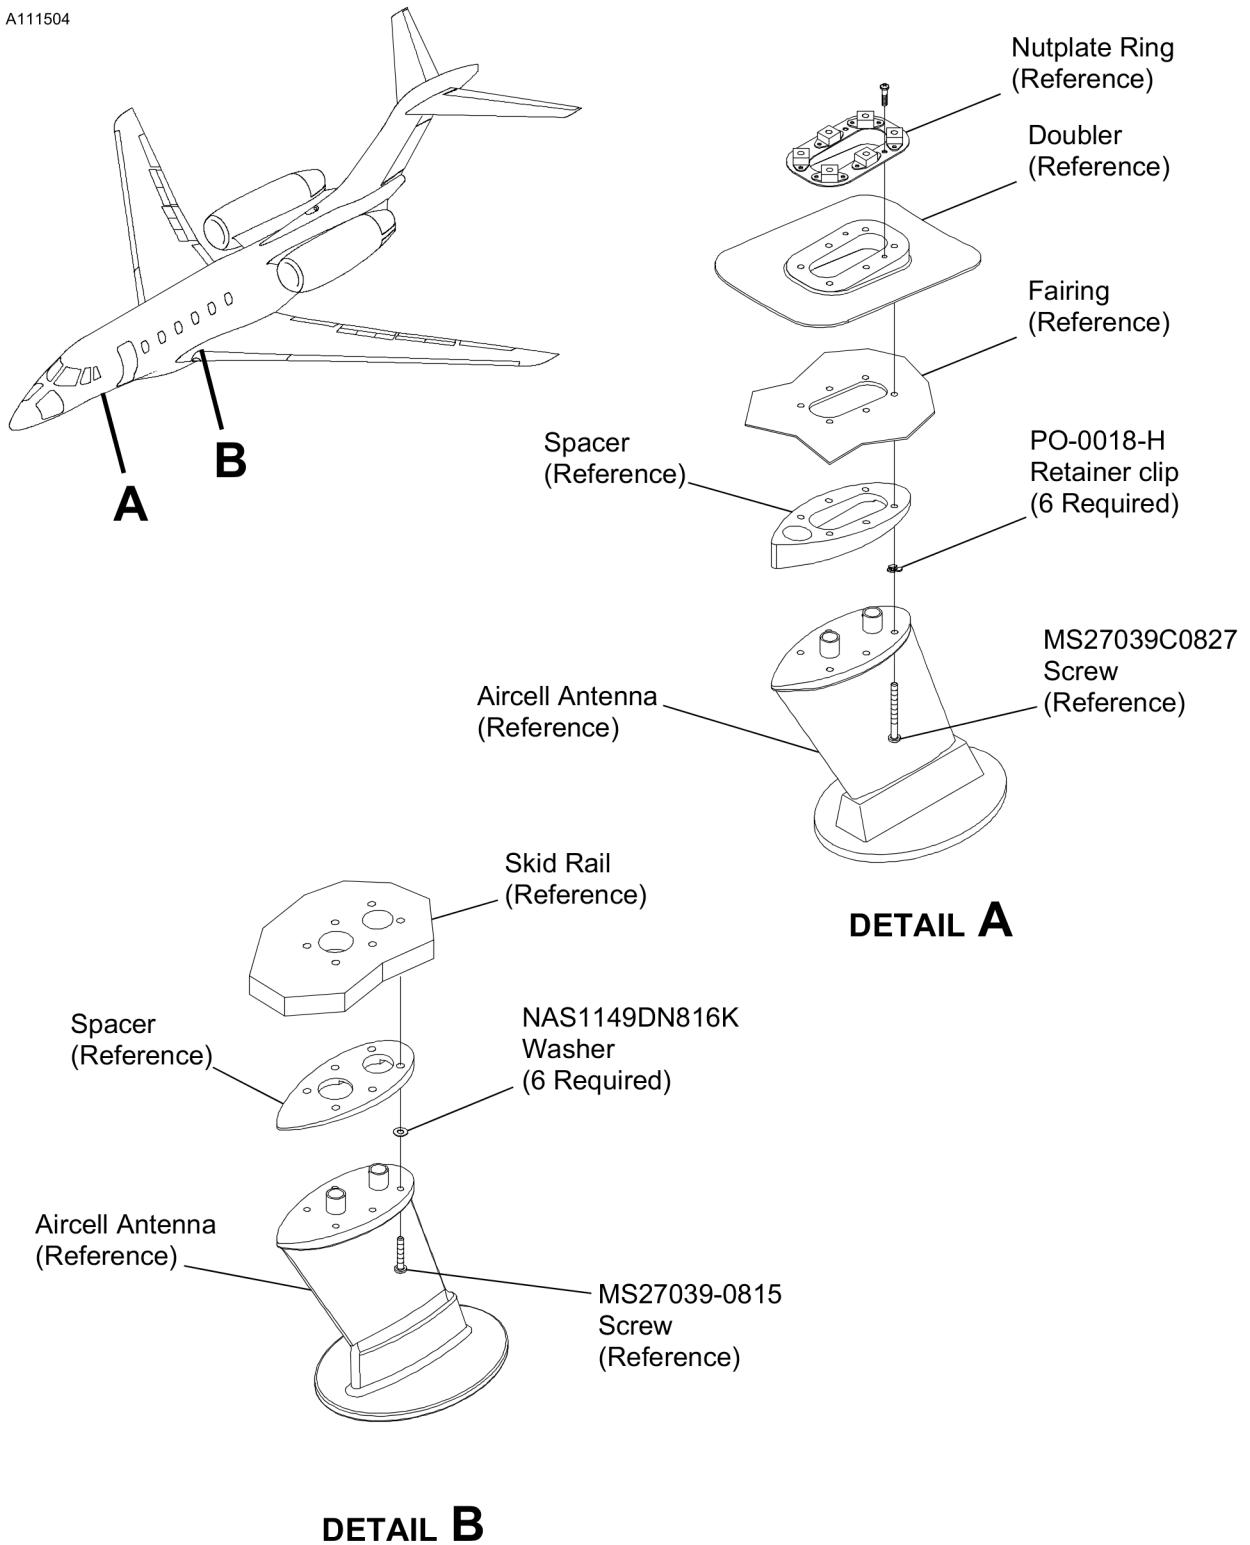

Figure 1. Aircell ATG Broadband Antenna Electrical Bonding Improvement (Sheet 1)
5. (Refer to Figure 1, Detail A.) Install the forward Aircell ATG Broadband Antenna as follows:
- (1) Remove the nutplate ring from the antenna doubler.
- (2) If necessary, remove the primer from the mating surface of the antenna doubler.
- (3) If necessary, remove the primer from the mating surface of the nutplate ring.
- (4) Apply U074093 Color Chemical Film to all bare material on the doubler and nutplate ring. (Refer to the Cessna Model 750 Structural Repair Manual, Chapter 51, Protective Treatment of Metal - Description and Operation.)
- (5) Remove the spacer from the Aircell ATG Broadband antenna.
- (6) Remove the primer from the lower and upper surface of the spacer.
- (7) Apply U074093 Color Chemical Film to all bare material on the spacer. (Refer to the Cessna Model 750 Structural Repair Manual, Chapter 51, Protective Treatment of Metal - Description and Operation.)
- (8) Install six MS27039C0827 Screws in the antenna.
- (9) (Refer to Figure 1, Detail A.) Install one PO-0018-H Retainer Clip on each screw.
- (10) Apply a fay seal to the upper and lower surfaces of the spacer using U470638 Sealant. (Refer to the Citation Standard Practices Manual, Chapter 20, Fuel, Weather, Pressure, and High-Temperature Sealing - Maintenance Practices.)
- (11) Install the spacer on the Aircell ATG Broadband antenna.
- (12) Install the forward Aircell ATG Broadband antenna on the aircraft.
- (13) Torque the MS27039C0827 Screws. (Refer to the Citation Standard Practices Manual, Chapter 20, Torque Data - Maintenance Practices.)
- (14) Make sure there is a Type I electrical bond between the spacer and the MS27039C0827 Screws. (Refer to the Citation Standard Practices Manual, Chapter 20, Electrical Bonding - Maintenance Practices.)
- (15) Make sure that there is a Type I electrical bond between the antenna doubler and the nutplate ring. (Refer to the Citation Standard Practices Manual, Chapter 20, Electrical Bonding - Maintenance Practices.)
- (16) Make sure that there is a Type V electrical bond between the antenna base and the screw countersinks in the 154AB access panel. (Refer to the Citation Standard Practices Manual, Chapter 20, Electrical Bonding - Maintenance Practices.)
- (17) Connect the coax cables to the antenna.
6. (Refer to Figure 1, Detail B.) Install the aft Aircell ATG Broadband Antenna as follows:
- (1) If necessary, remove the spacer from the Aircell ATG Broadband Antenna.
- (2) Using a 0.50 inch (12.7 mm) bonding brush, remove the exterior finish from mating surface of each spacer mounting holes.
- (3) Apply U074093 Color Chemical Film to all bare material around each mounting hole. (Refer to the Cessna Model 750 Structural Repair Manual, Chapter 51, Protective Treatment of Metal - Description and Operation.)
- (4) Install six MS27039-0815 Screws in the antenna.
- (5) (Refer to Figure 1, Detail B.) Install one NAS1149DN816K Washer on each screw.
- (6) Apply a fay seal to the mating surface of the spacer using U470638 Sealant. Except for around the 0.50 inch (12.7 mm) diameter electrical bond of each mounting hole. (Refer to the Citation Standard Practices Manual, Chapter 20, Fuel, Weather, Pressure, and High-Temperature Sealing - Maintenance Practices.)
- (7) Install the spacer on the Aircell ATG Broadband antenna.
- (8) Install the aft Aircell ATG Broadband antenna on the aircraft.
- (9) Torque the MS27039-0815 Screws. (Refer to the Citation Standard Practices Manual, Chapter 20, Torque Data - Maintenance Practices.)
- (10) Make sure that there is a Type I electrical bond between the Aircell Antenna and the antenna mount. (Refer to the Citation Standard Practices Manual, Chapter 20, Electrical Bonding - Maintenance Practices.)
- (11) Apply a fillet seal around the base of the Aircell Antenna and spacer using U470638 Sealant. Do not seal around the spacer drain opening.